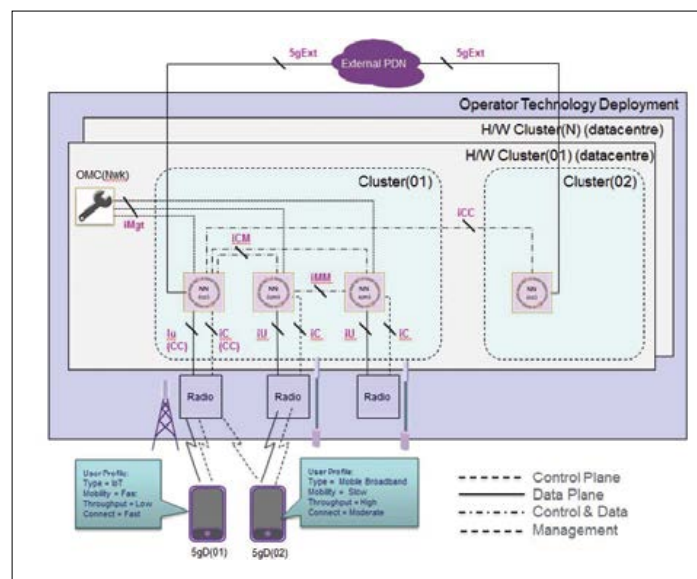

Figure 2. Proposed FDC network architecture.
Based on the architecture shown in **Figure 2** the FDC operates as follows: a user device connects to a Cluster, umbrella Cell, which supports a Cluster Controller (CC) and directly connects to it to setup the network's communications connection signaling using a contended group connection system.